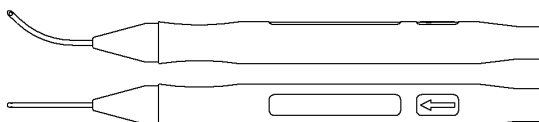

Fig. 4 Product illustration (schematic) of bimanual irrigation handpiece
2. If the check was successful as seen in Fig. 4, click **[CONTINUE]**.